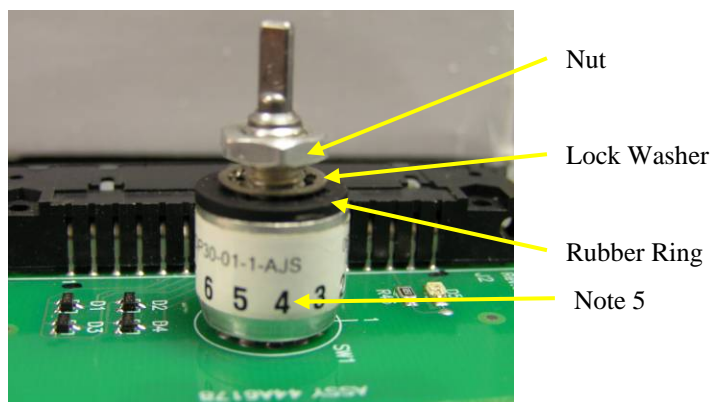

Figure 6: Rotating Switch Side View
- Once the cap has been removed, loosen the nut shown in Figure 6 that was located under the cap; remove it the lock washer and the rubber ring.
- Carefully place one of the Switch Stops in the slot between 1 and 12 as marked on the switch indicated by Note 4 in Figure 6. Insert the other Switch Stop in between 7 and 8.